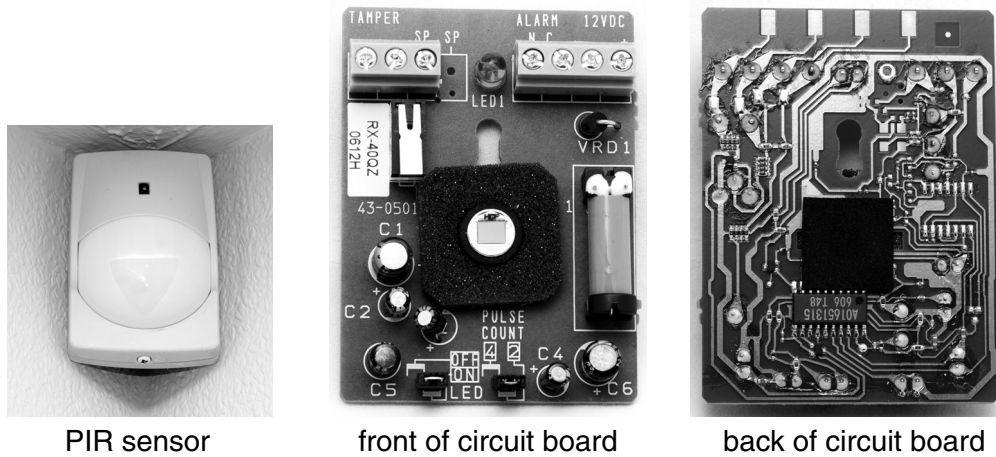

Fig. 2
- (b) The passive infra red (PIR) sensor shown in Fig. 2 is designed to be used in a house alarm system.